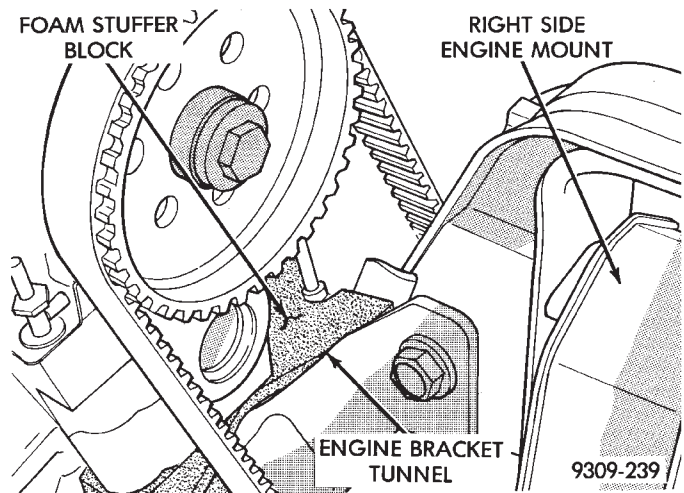

Fig. 14 Foam Stuffer Block Location
- (11) Remove jack from under engine.
- (12) Inspect foam stuffer block condition and position (Fig. 14). Stuffer block should be intact and secure within the engine bracket tunnel.